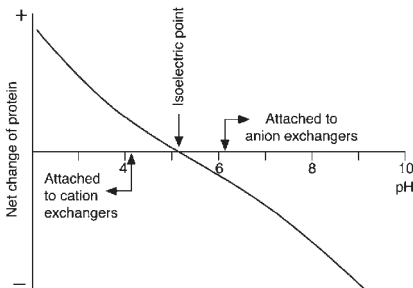

Fig 3. The net charge of a protein as a function of pH.
The pH value at which a biomolecule carries no net charge is called the isoelectric point (pI). When exposed to a pH below its pI, the biomolecule will carry a positive net charge and will bind to a cation exchanger (SP). At pH's above its pI the biomolecule will carry a negative net charge and will bind to an anion exchanger (Q) (Fig 3).